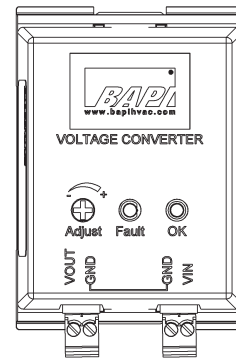

Fig. 7: EZ-Mount with mounting tabs pushed in
The EZ Mount Base has mounting tabs that can be extended or pushed in. Figures 7 and 8 show the details.
- If showing, push the blue mounting tabs in as shown in Figure 7.